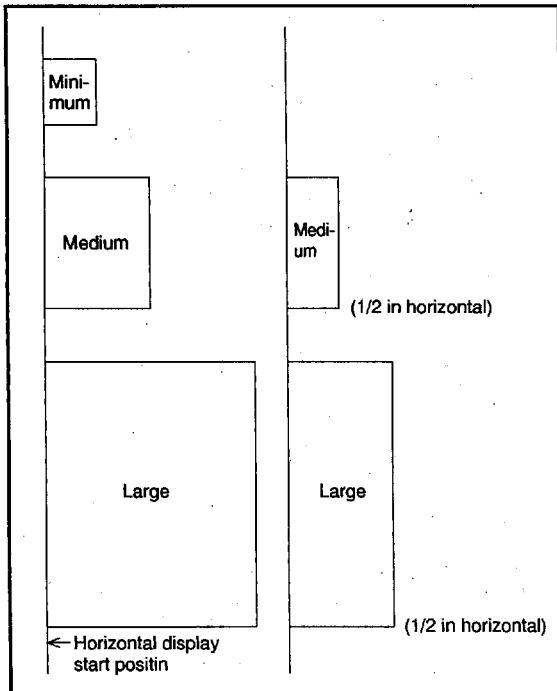

Fig. 53 Display start positions (horizontal) for each character size
**Notes 1:** The display start position in the horizontal direction is not affected by the character size. In other words, the horizontal start display position is common to all blocks even when the character size varies with each block (refer to Figure 53).